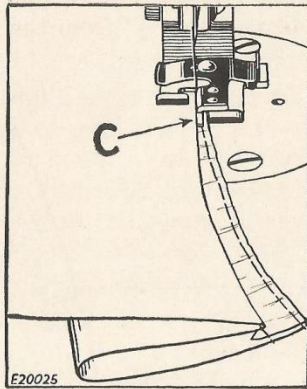

FIG. 253. CIRCULAR INVISIBLE HEM WITH FOLDED EDGE BEING BLIND STITCHED
- g—Place this gathered edge under the attachment with the fold against the guide (C), as shown in Fig. 253. Adjust guide (C) according to the material to be blind stitched, as instructed on page 150.